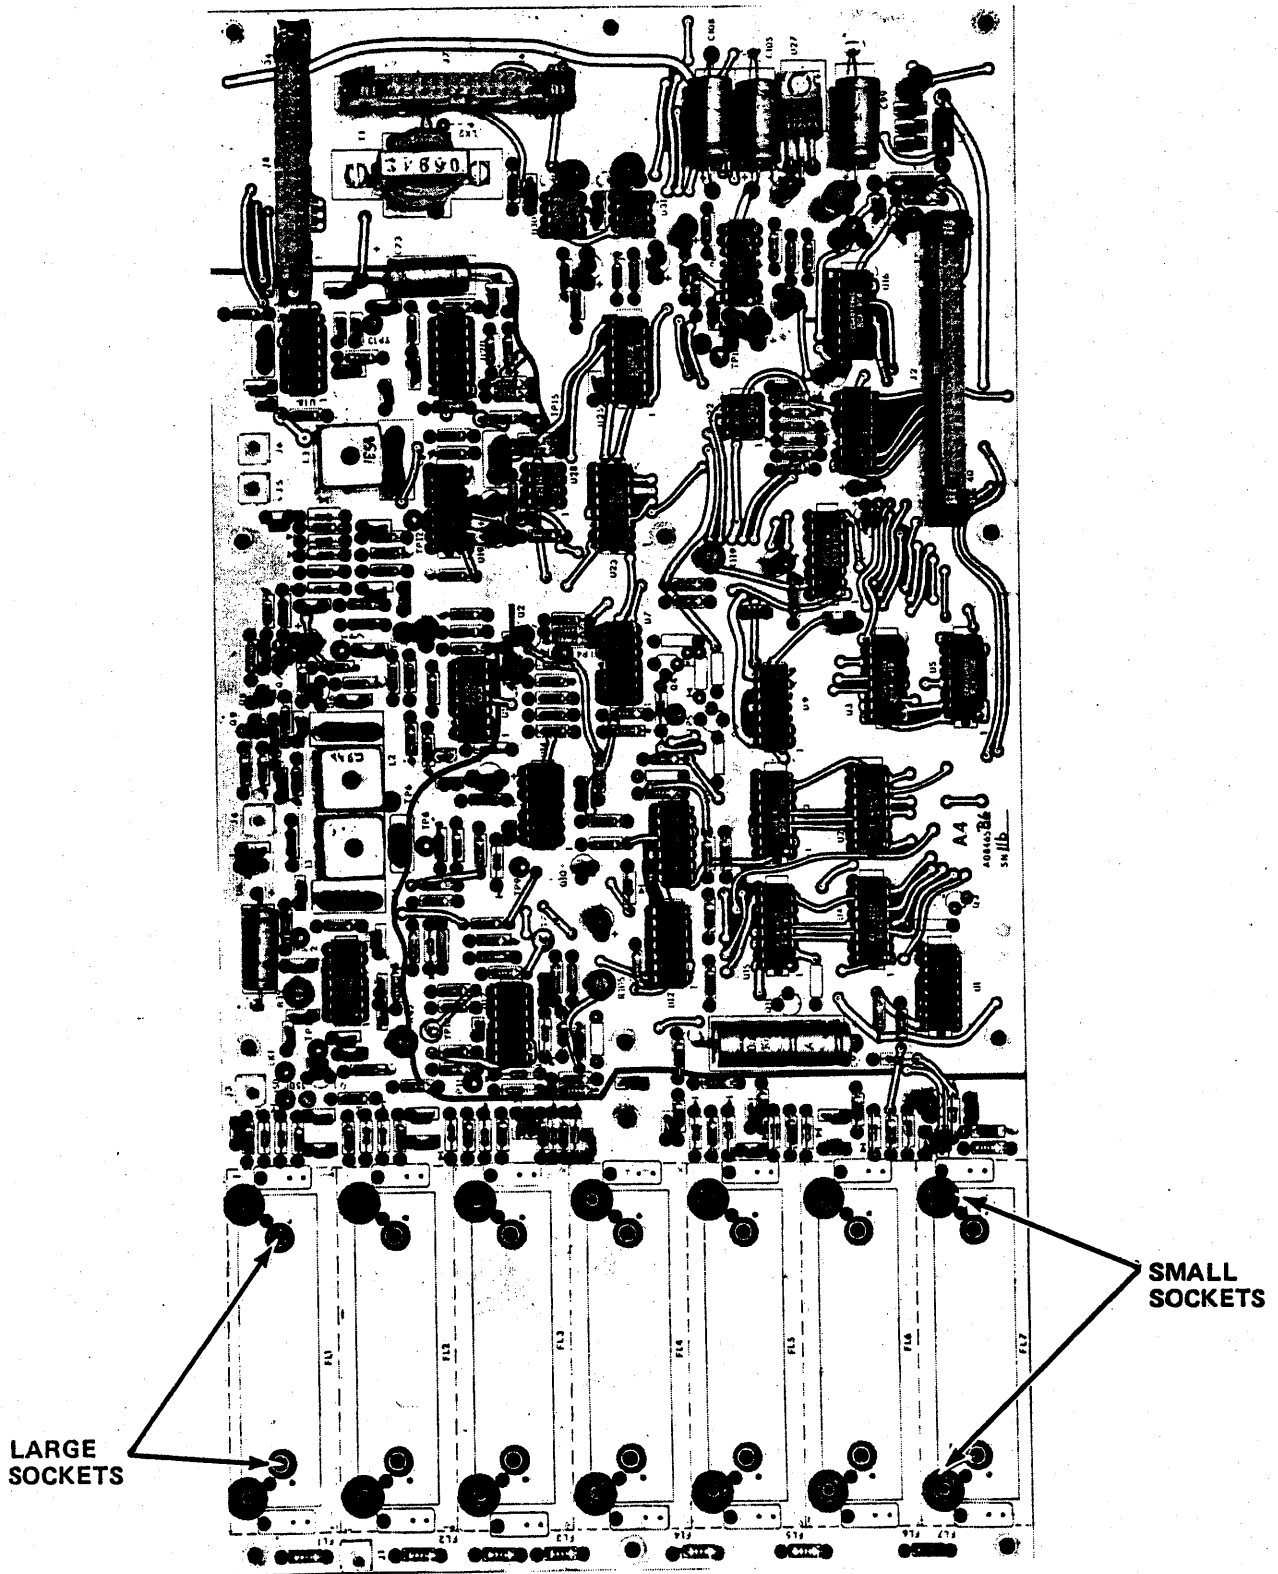

Figure 2-4. Location of IF Bandwidth Filter Slots
The installation procedures for the Receiver may be logically divided into three steps: (1) installation of the primary operating options to include the plug-in filters and independent sideband; (2) making the required system connections; and (3) installation of the Receiver in an operational position. Paragraph 2.3.3.1 through 2.3.4.6 detail the installation steps necessary for preparing the RA6793A HF Receiver for operation. Figure 2-4 thru 2-6 are photographs of the details associated with installing the Receiver operating options.
The Receiver may be supplied with from 1 to 7 plug-in filters. Table 2-1 lists the optional filters available with the initial procurement. Mounted on the A4 board, the filters are accessible from the top of the Receiver. To gain access to the A4 board, loosen the six quarter-turn fasteners holding the top cover to the Receiver and carefully remove the top cover. An RF shield is mounted over the filter sockets on the A4 board. Remove the three screws holding this shield to the chassis and remove the shield. Figure 2-4 illustrates the seven filter slots on the A4 board.
Once the filter complement and arrangement has been determined, the following procedure should be used to insert the plug-in filters into the Receiver. Refer to Figures 2-4 and 2-5.